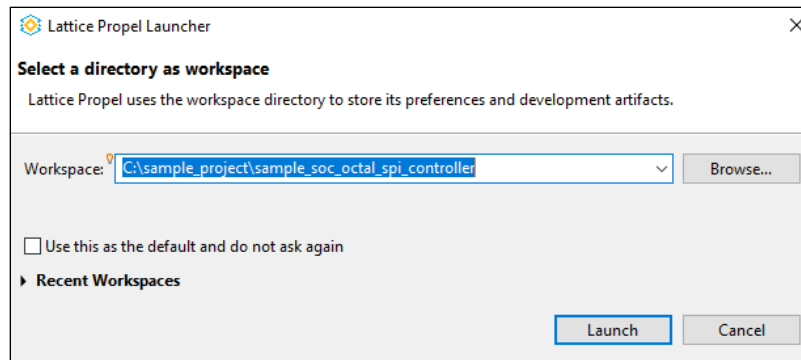

Figure 6.2. Lattice Propel Launcher
1. Launch Propel SDK. The **Lattice Propel Launcher** opens as shown in Figure 6.2. Browse to a directory for the **Workspace** field and click **Launch**.